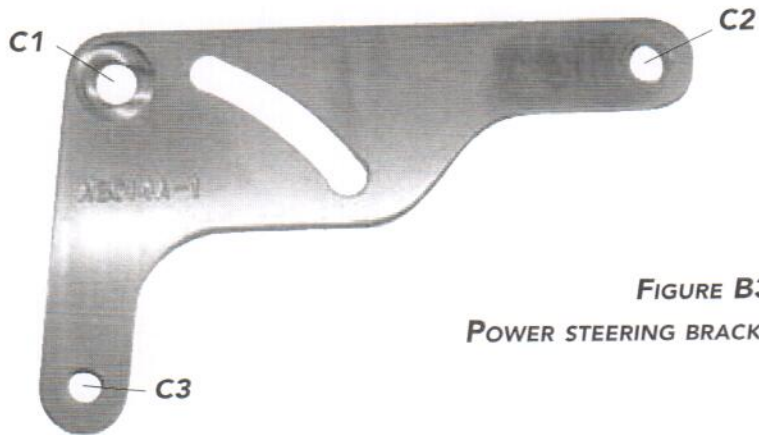

FIGURE B3
5. Attach the "pistol" shaped power steering bracket to the starboard side head oriented as shown in figure B3. The countersunk hole (C1) aligns with the outboard-most hole in the starboard head, with the 1.250" spacer placed between the power steering bracket and the head face. Hole C2 should line up with the inboard-most head bolt hole.